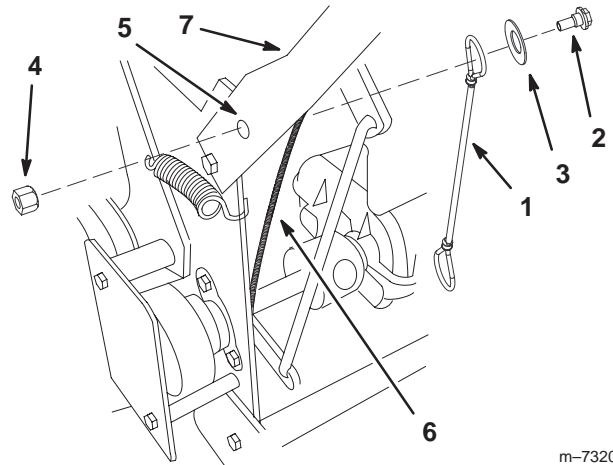

Figure 9
2. Install the lanyard with 1 shoulder bolt, 1 washer (9/16 inch) and 1 locknut (9/16 inch) (Fig. 9).